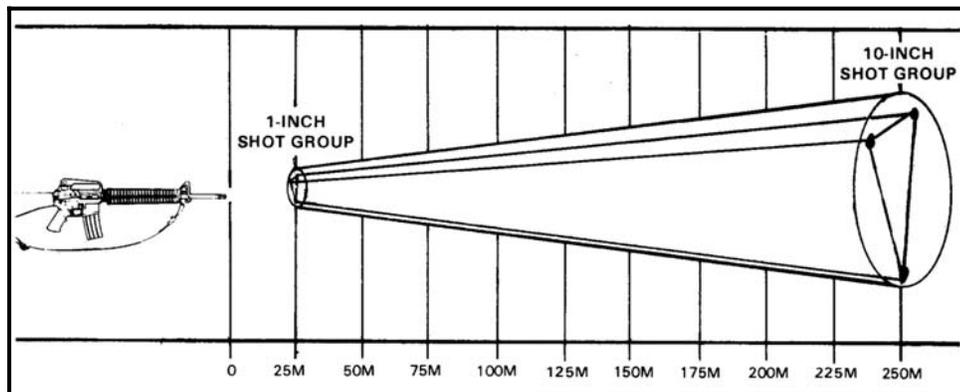

Figure 5-38. Increase in shot-group size as range increases.
(2) ***Increase of Shot-Group Size.*** Just as the distance covered by a minute of angle increases each time the range increases, a shot group can be expected to do the same. If there are 2.54 centimeters between bullets on a 25-meter target, there will be an additional 2.54 centimeters of dispersion for each additional 25 meters of range. A 2.54-centimeter group at 25 meters (about 3.5 minute of angle) is equal to a 25.4-centimeter group at 250 meters (Figure 5-38).